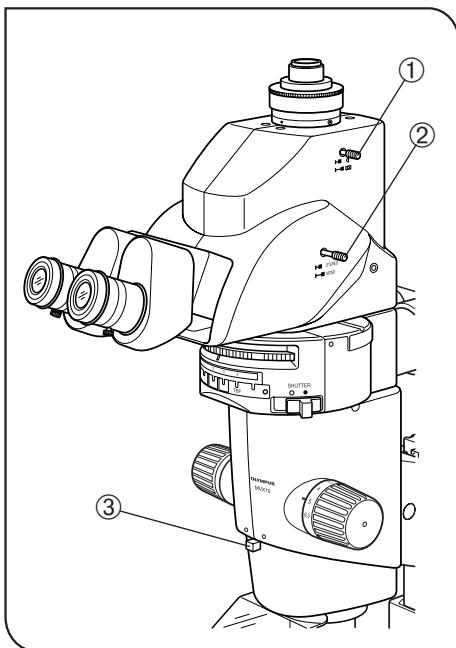

Fig. 15
**6 Selecting the Light Path** (Fig. 15)
**7 Switching the Monaural/Stereo View** (Fig. 15)